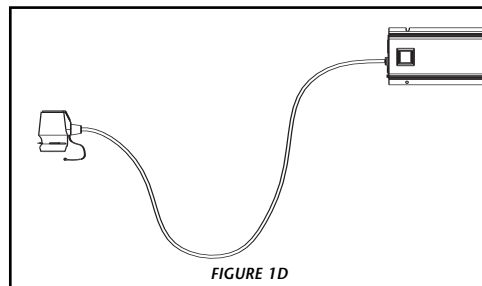

FIGURE 1D
4. Mount the Platinum ICE controller horizontally to the wall, near the reactor chamber. Ideally place the controller above the reactor and away from any water connection point, to prevent any water from potentially leaking onto the controller by means of a leak at a connection point or a “sweating” system. Make sure you allow for a “drip-loop” (Figure 1d) on the lamp, sensor and power cord, again, to prevent any water from potentially entering the controller. Affix the green ground wire to the grounding lug at the top of the reactor vessel and securely fasten with the locknut provided (Figure 1e).